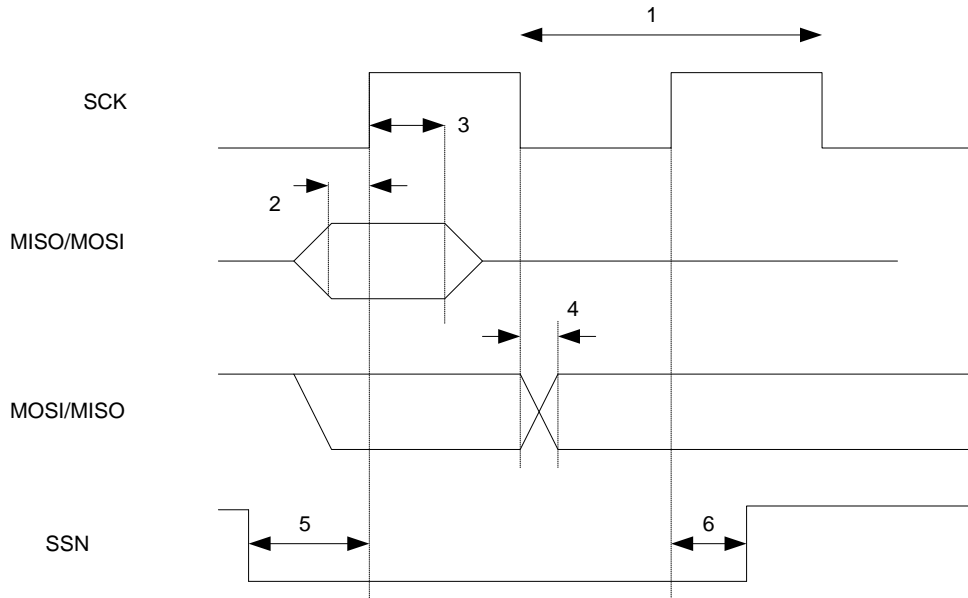

Figure 5: SPI AC Characteristics
| SCK period | | See Section 12.14.3 | | ns | Master. See item 1, Figure 5 |
| SSN low to SCK | 2·t _{SYCLK} | | | | See item 5, Figure 5 |
| SCK to SSN high | 30 | | | ns | See item 6, Figure 5 |
| MISO setup | 10 | | | ns | Master. See item 2, Figure 5 |
| MISO hold | 10 | | | ns | Master. See item 3, Figure 5 |
| SCK to MOSI | | | 25 | ns | Master. See item 4, Figure 5, load = 10 pF |
| SCK period | 100 | | | ns | Slave. See item 1, Figure 5 |
| MOSI setup | 10 | | | ns | Slave. See item 2, Figure 5 |
| MOSI hold | 10 | | | ns | Slave. See item 3, Figure 5 |
| SCK to MISO | | | 25 | ns | Slave. See item 4, Figure 5, load = 10 pF |